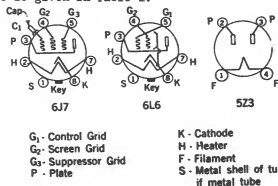

Fig. 4 - Arrangement of Terminals and Connections of Vacuum Tubes Used in the 118A Amplifier Viewed from the Bottom
2.26 The arrangement of terminals and connections of the vacuum tubes used in the 118A amplifier, as viewed from the bottom, are given in Fig. 4. A wiring diagram of the amplifier is given in Fig. 5.